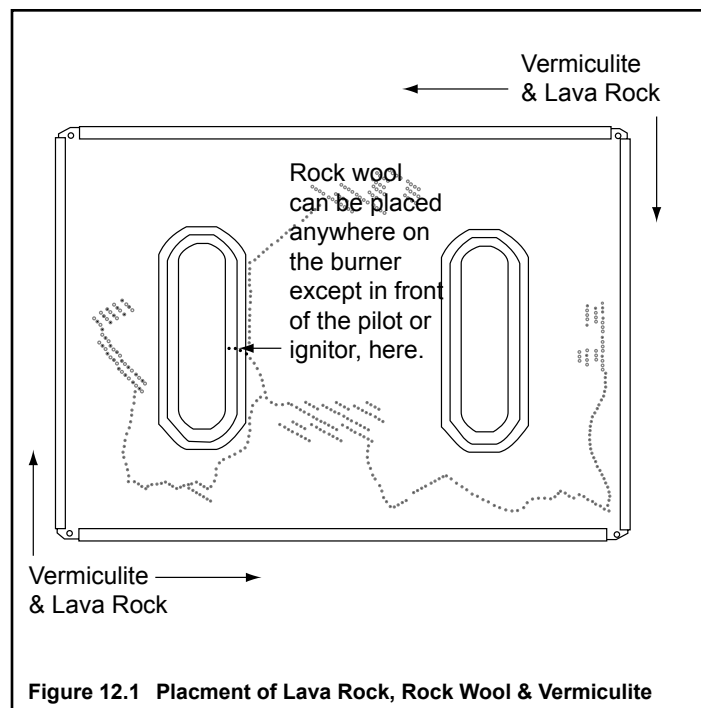

Figure 12.1 Placement of Lava Rock, Rock Wool & Vermiculite
- Place a small amount of 1/2 in. diameter pieces (dime-size) of rockwool on the burner pan so that the rockwool touches but does not cover the holes in the burner pan. This will provide the “glowing embers” look. It is not necessary to use the entire bag. Save the remaining rockwool for future use. See Figure 12.1.
- See Figure 12.1.